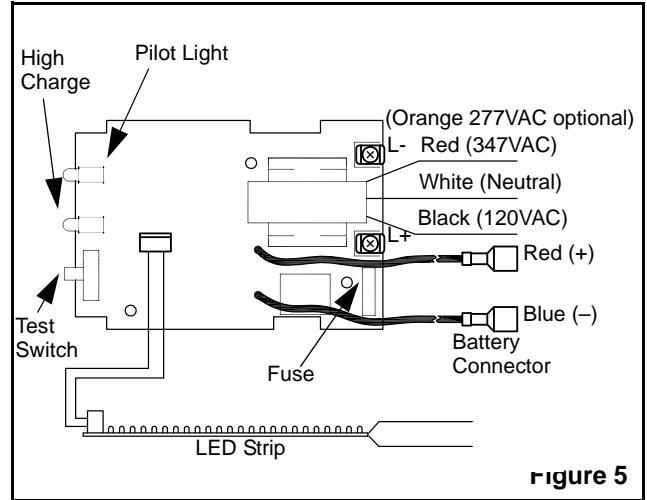

Figure 5
5. Make the proper connections: the unit accepts an input voltages of 120 and 347 VAC. **For 120VAC operations:** connect the black wire to AC line voltage (120VAC) and the white wire to neutral. **For 347VAC operations:** connect the red wire to AC line voltage (347VAC) and the white wire to neutral (see fig.5).